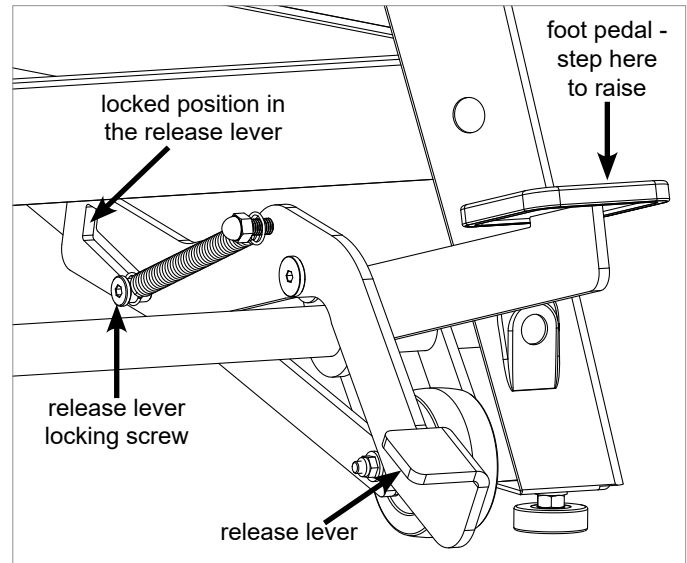

Fig. 17
1. To move your saw with the mobile base, step down on the foot pedal to raise the saw off the floor and onto the wheels (see Fig. 17). Step on the foot pedal until the release lever locking screw slides into the locked position in the release lever. Make sure that your foot does not come into contact with the release lever while you are stepping on the foot pedal to raise the saw, otherwise the mobile base will not stay in the raised position.